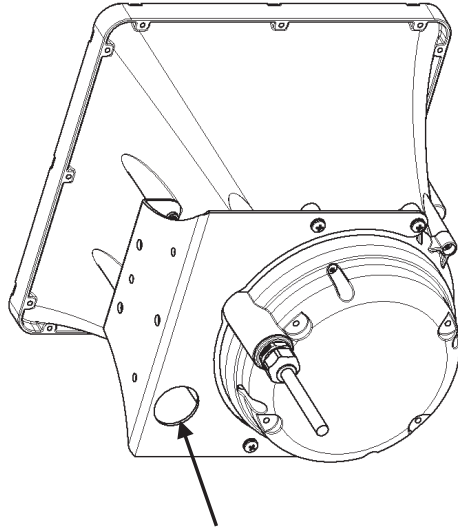

Figure 7: Tether Attachment Point
- 1) A tether cable may be attached to all speakers by looping the cable through the large hole in the TCPA-10 mounting bracket (Figure 7).